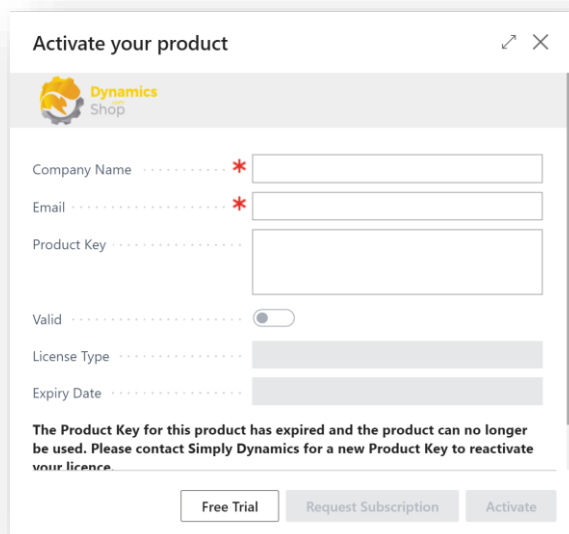

Figure 3-12
1. In the **Activate your Product** page (Figure 3-12)